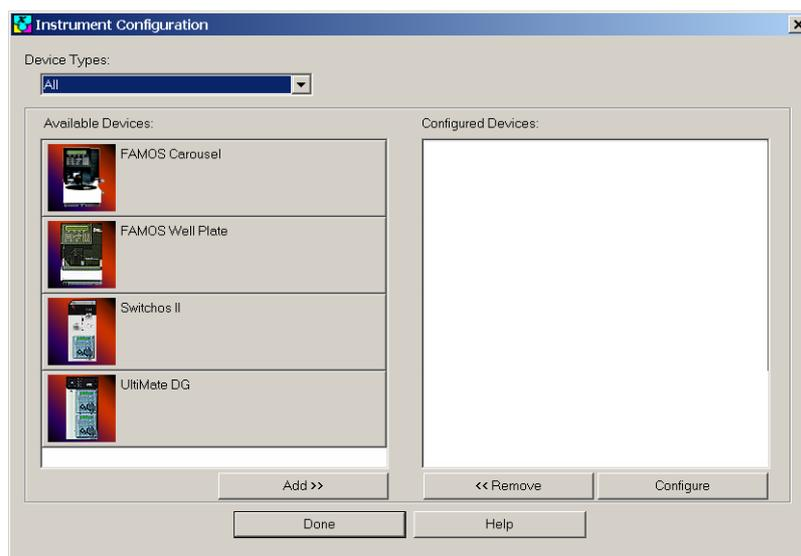

FIGURE 2-13 The Instrument Configuration Window
- a) Click the desktop icon *Instrument Configuration* to present the **Instrument Configuration** window (FIGURE 2-13). Additional instruments may appear in this window, depending on your specific installation.